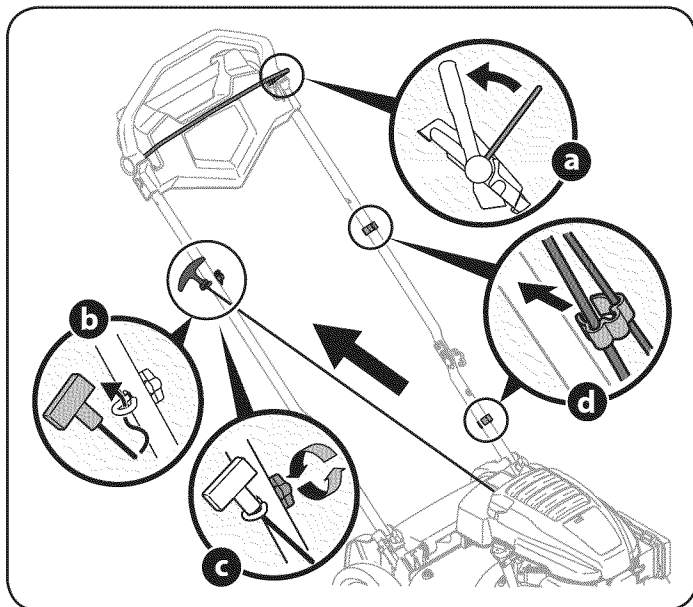

Figure 6
- b. Slowly pull starter rope handle from engine and slip starter rope into the rope guide. See Figure 6.
- d. Use cable clips provided to secure blade control and drive cables to lower handle as shown in Figure 6.